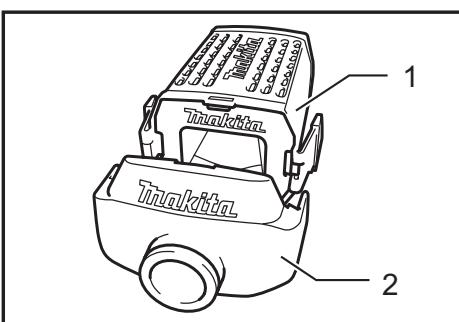

Fig.12
- Fig.12: 1. Dust box 2. Dust nozzle